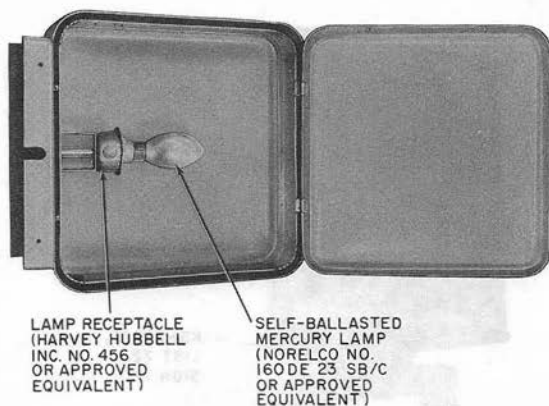

Fig. 26—KS-20135 Sign With Lens Open
5.05 Each KS-20135 sign is elliptical illuminated with a 160 watt, self ballasted mercury lamp (Norelco No. 160DE23SB/C or an approved equivalent). See Fig. 26.